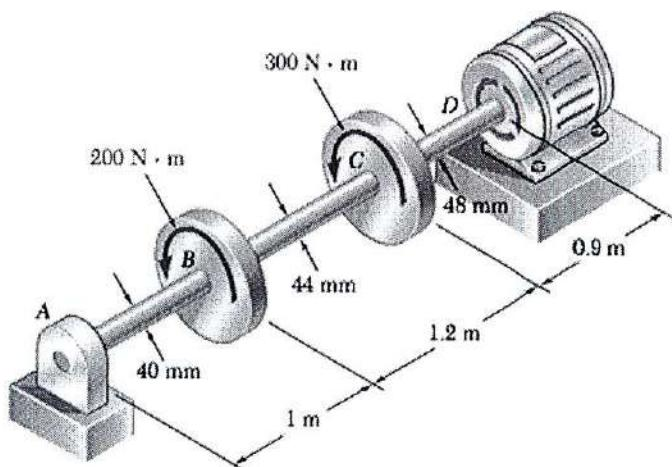

Figure 4a/ Rajah 4a
- a) The electric motor exerts a 500 N.m torque on the aluminium shaft **ABCD** when it is rotating at a constant speed. Given modulus of rigidity, $G = 27 \text{ GPa}$ and that the torque exerts on the pulleys **B** and **C** are as shown in **Figure 4a**. Determine the angle of twist between;